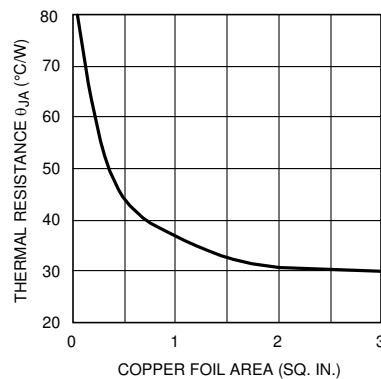

Figure 6-4. Thermal Resistance (Typical) for 7-L DDPAK Package Mounted on 1 oz. (0.036 mm) PC Board Foil
5. Choose a copper area that will ensure the specified $T_{J(MAX)}$ for the calculated θ_{JA} . θ_{JA} as a function of copper area in square inches is shown in Figure 6-4.
4. Finally, using this value for θ_{JA} choose the minimum value of copper area from Figure 6-4.
Examining Figure 6-4, we see that we cannot attain this low of a thermal resistance for one layer of 1 oz copper. It will be necessary to derate the part by decreasing either the ambient temperature or the power dissipation. Other solutions are to use two layers of 1 oz foil, or use 2 oz copper (see Table 6-1), or to provide forced air flow. One should allow about an extra 15% heat sinking capability for safety margin.